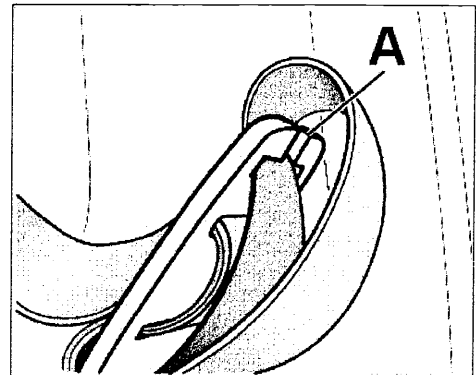

Figure 11
- 12.6** Feed the belt loop through the cut-out in the upper opening as shown in Figure 11, Item A and into the holder.